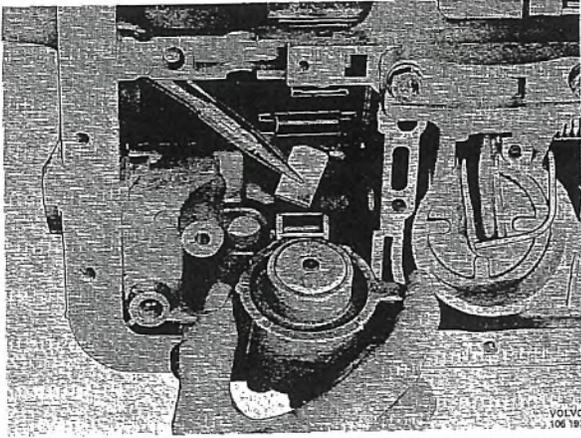

Fig. 4-98. Installing front servo and strut
10. Place the front brake band in position, see Fig. 4-98. Stick the strut to the servo lever with vaseline. Fit the servo. The shorter bolt is fitted at the front. Make sure that the servo strut is correctly engaged with the slot in the brake band. The cam for self-adjusting is fitted later.